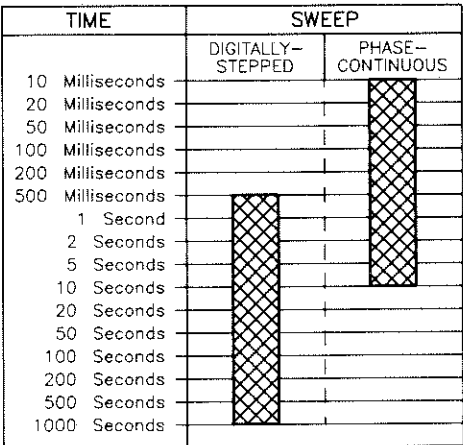

Figure 3-10. Sweep Times for Each Sweep Type.
The graph in figure 3-10 lists the permissible sweep times for each sweep type.
- Enter a sweep time, chosen from figure 3-10, by using the Data keys. (If you choose an incorrect sweep time, the Signal Generator will display an error if the sweep time is out of range, or it will choose the closest allowable sweep time within the range shown in figure 3-10.)